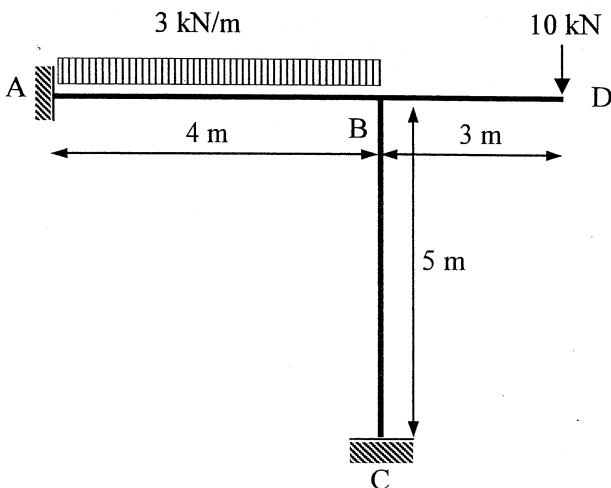

Figure 2(b)
- (b) A non-sway frame is shown in Figure 2(b). Using **Slope Deflection Equations**, analyse the frame and draw the bending moment diagram. ( $EI = \text{Constant}$ ) (15 Marks)